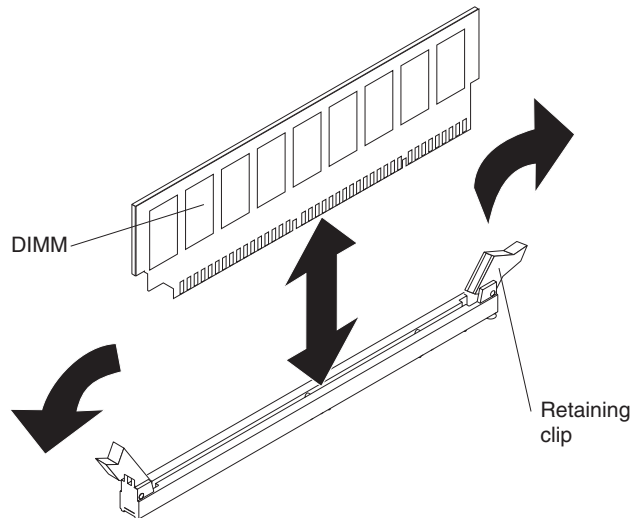

Figure 21. Removing a DIMM
8. Carefully open the retaining clips on each end of the DIMM connector and remove the DIMM (see Figure 21 on page 42).